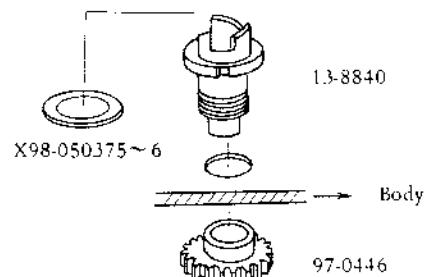

Fig. 1
2) Mount Sprocket Clutch (13-8840) as shown in Fig. 1.